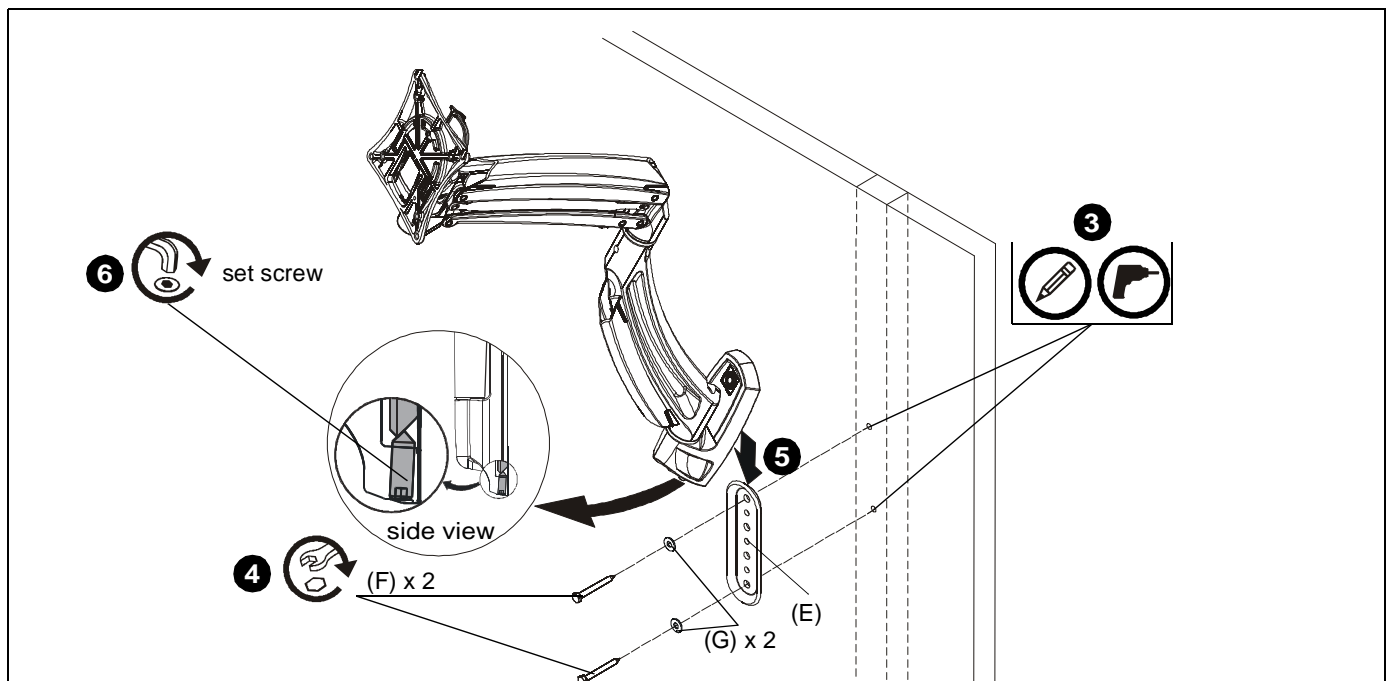

Figure 6
3. Use wall bracket to mark and drill two 3/16 x 2 1/2" holes in wall at desired mounting location. (See Figure 6)
4. Use two 1/4-2 1/2" hex head lag screws (F) and two 1/4" washers (G) to install wall bracket onto wall. (See Figure 6)
5. Hang monitor arm (A) over wall bracket. (See Figure 6)
6. Secure monitor arm to wall bracket by tightening set screw. Ensure set screw engages back side of wall bracket (E) to properly secure mount. (See Figure 6)